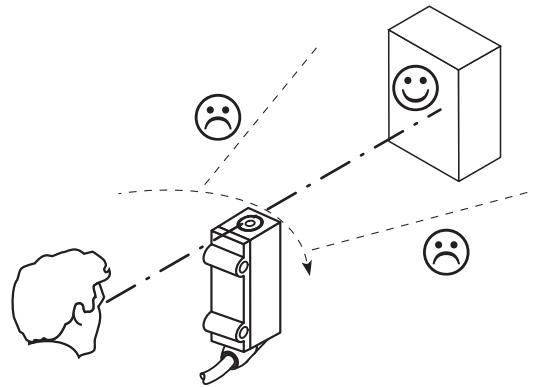

Figure 2: Sensor alignment
- ① Sensing range on white, 90% remission
- ② Object with 6% ... 90% remission (based on standard white DIN 5033)
3. Select the position so that the infrared light (not visible) hits the center of the object. The correct alignment can only be detected via the LED indicators (yellow indicator LED lights up when the object is detected) or with the help of an infrared conversion screen (see the SICK range of accessories). see figure 2, page 11